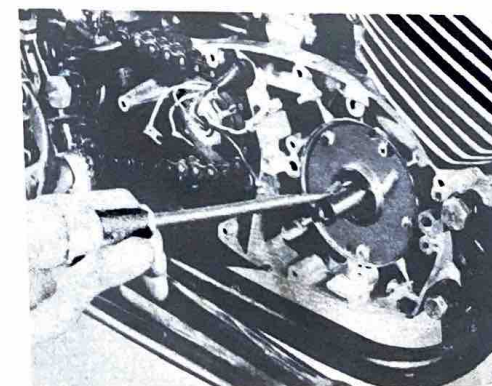

Fig. 4-1-13
10. Remove the woodruff key with a slot head screwdriver. (Fig. 4-1-13)